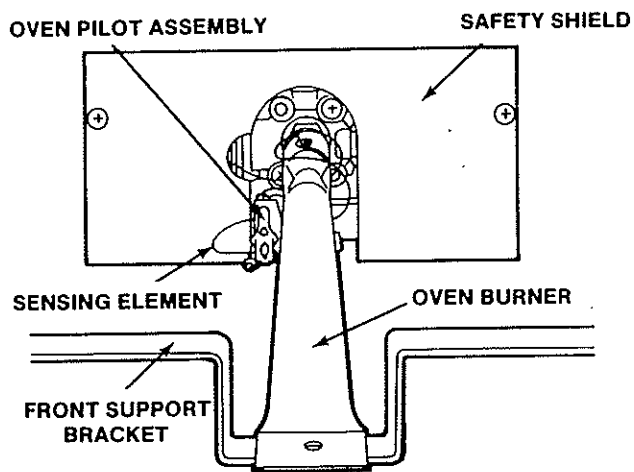

Figure 8
- remove screw which secures burner to front support bracket, (Figure 8).